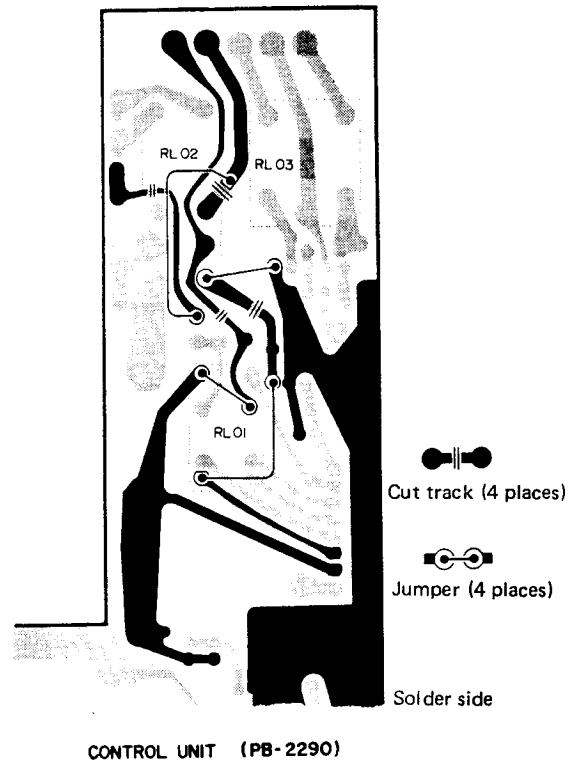

Figure 4
4. Referring to Figure 4, carefully cut the four tracks on the solder side of the Control Unit, and install four jumpers as illustrated.